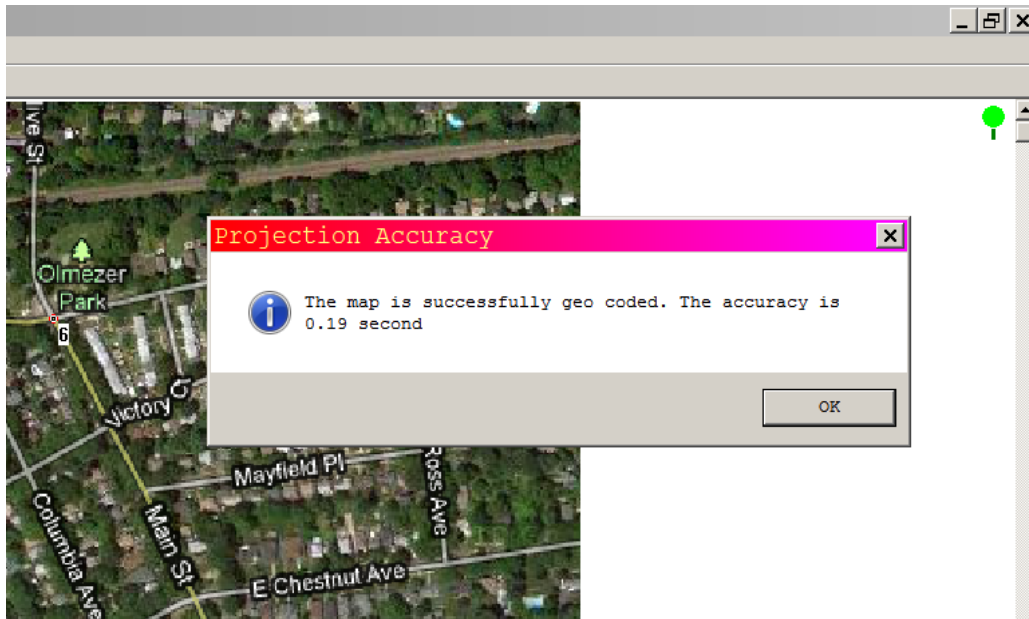

Figure 4. Base Map Geo-Coded with 0.19 second Accuracy
11. The geo-coded map now appears with all six points of reference, as seen in Figure 4: